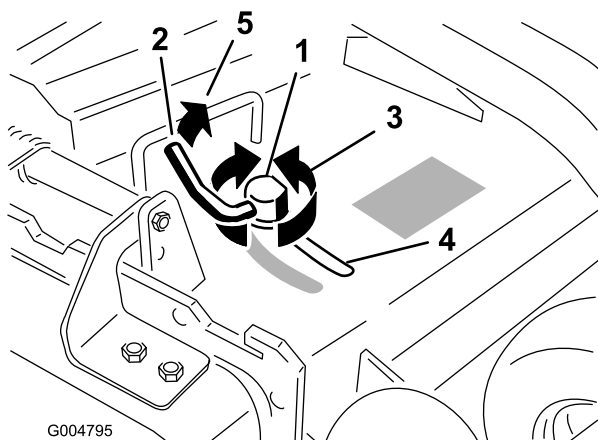

Figure 14
- To adjust the cam lock, swing the lever up to loosen the cam lock (Figure 14).
- Swing the lever back over to tighten the baffle and cam lock (Figure 14).